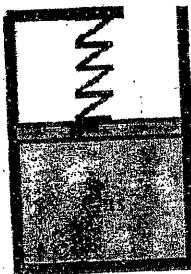

Figure P.8
8. A piston-cylinder device shown in Figure P.8 contains 0.05 m^3 of a gas initially at 200 kPa . At this state, a linear spring that has a spring constant of 150 kN/m is touching the piston but exerting no force on it. Now heat is transferred to the gas, causing the piston to rise and to compress the spring until the volume inside the cylinder triples. If the cross-sectional area of the piston is 0.25 m^2 , determine the final pressure inside the cylinder.